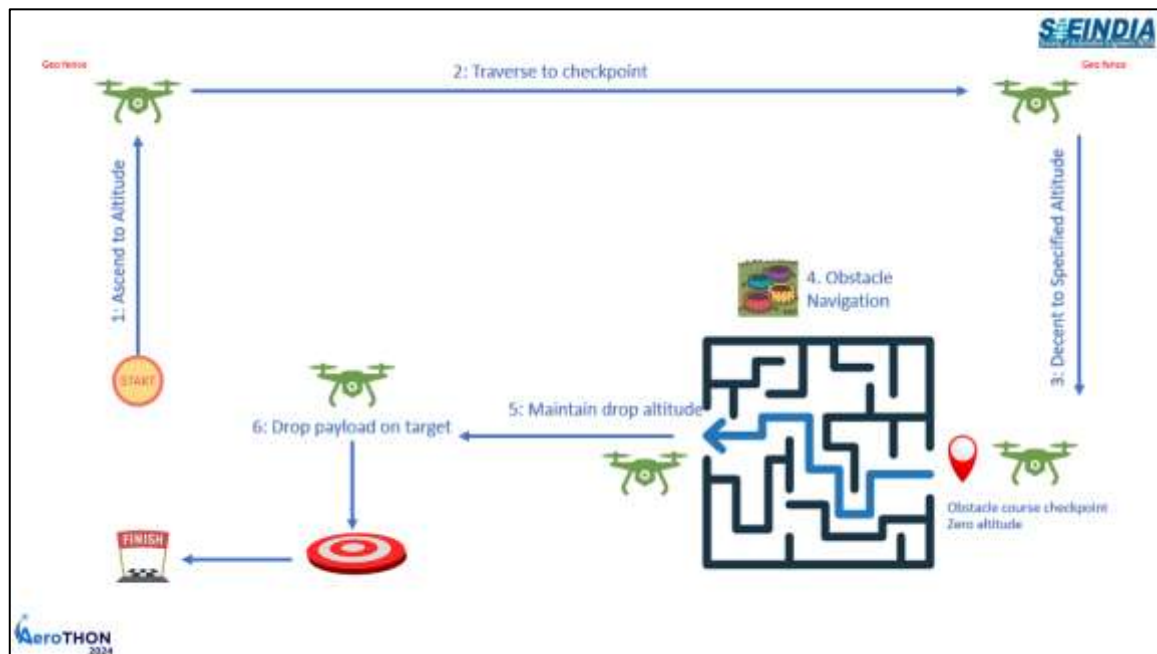

Figure 4: Flight Mission 3 – Manual - Mission Profile
- While the Figure 4 depicts the mission profile, actual conditions on the field may vary slightly.